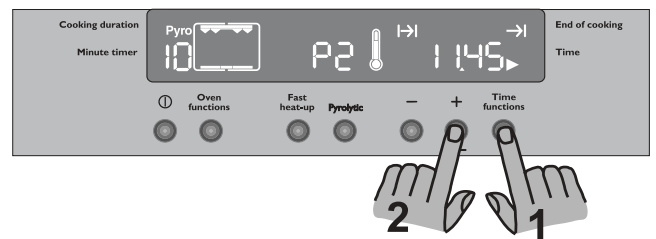

Fig. 24
3. Once you have chosen the desired pyrolytic function, the “Pyro” writing will flash in the display waiting for confirmation to start the pyrolytic cleaning function. At this time, push the Time functions button until the “End of Cooking” symbol  and the arrow symbol  will flash (Fig. 24). The control panel will display the end of the cleaning cycle (that is, the actual time + cooking duration time). Push “-” or “+” buttons to select the required end of cycle time (Fig. 24). After a few seconds, the “Pyro” writing and the symbol  will stop flashing, the acoustic signal will stop while the Cooking Duration symbol  will flash until the pyrolytic cleaning cycle start.